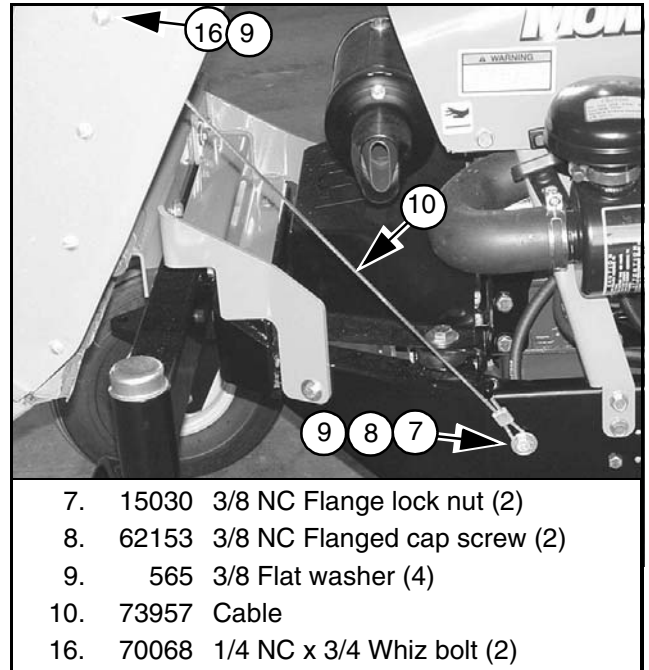

**Figure 12.** Hinge Pin Installed (Left Hinge Shown)
Align hinges of rear crossmember (12) on hopper with hinges of rear hopper pivot (4). Insert clevis pins (14) and hair pins (15) as shown in Figure 12.